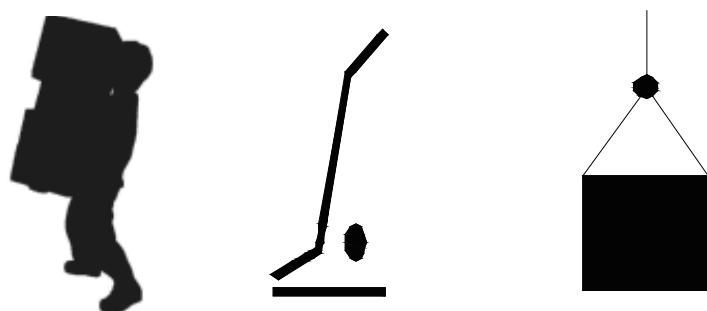

FIG 9-2
- 2.3 Product handling, generally using portable, car handling and lifting and moving, as shown in the figure 9-2